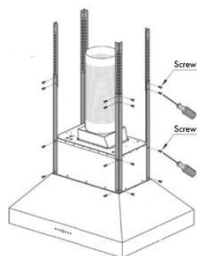

Figure 2
4. Attached the four Support pole to the hood's motor housing. *Figure 2*